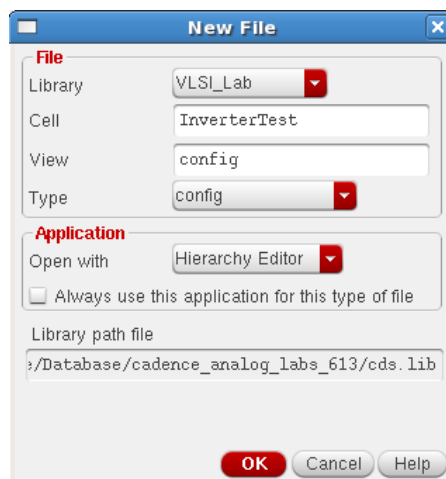

Figure 6.8: Configuration view Creation for Test cell
2. Replicate the settings shown in Fig.6.8.